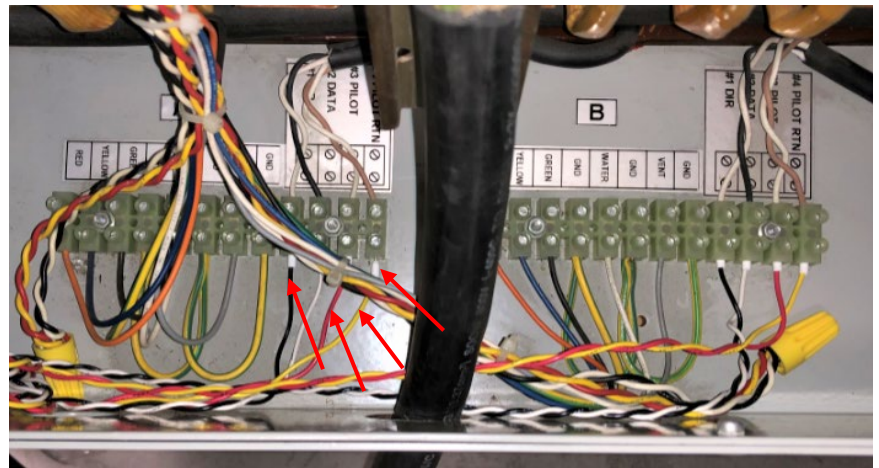

Figure 11 X1 Cable Connected to Channel A of TB1 for Communication Connections in DVS100/DVS150 Charger
- 4.3.7. Connect the X1 cable from the X1 connector on the CAN board to TB1 of Channel A in the DVS100/DVS150 charger (Figure 11), as listed below.
NOTE Twisting wires (Figure 11) is recommended for longer distances. Keeping them close together, however, is more important than twisting them.